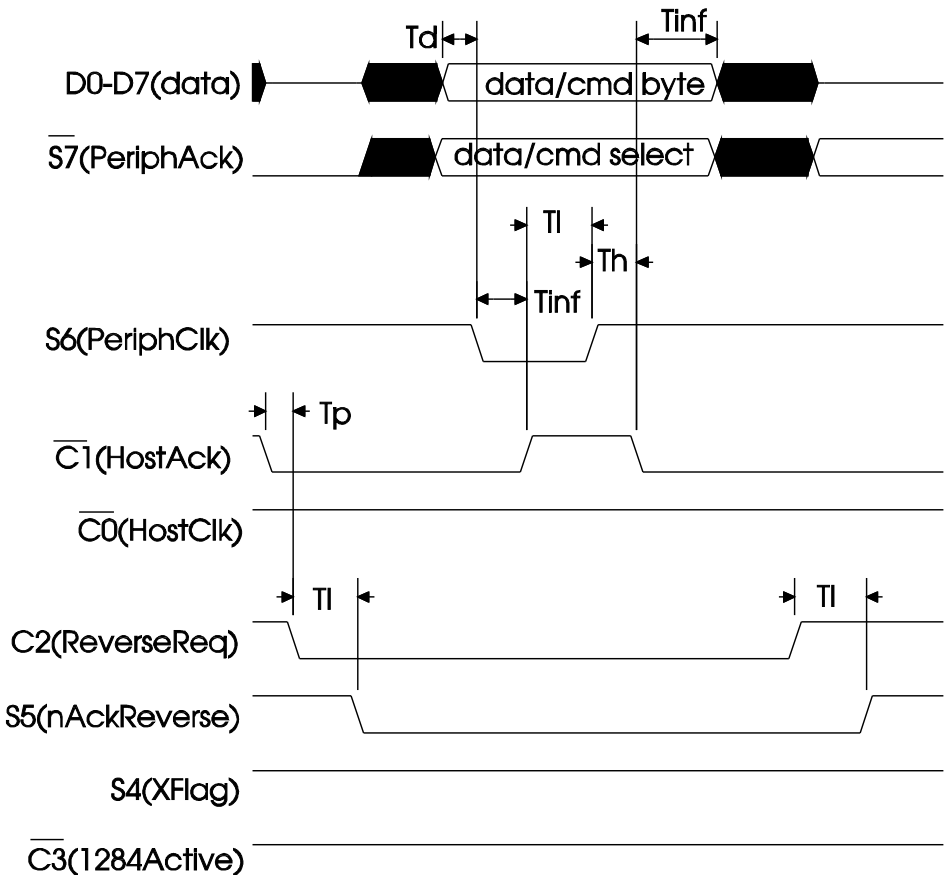

Figure 15-2: An ECP switch to reverse (peripheral to PC) direction, reverse transfer, and switch back to forward direction..
- Figure 15-2 shows the signals for a reverse transfer. The transfer works like this: